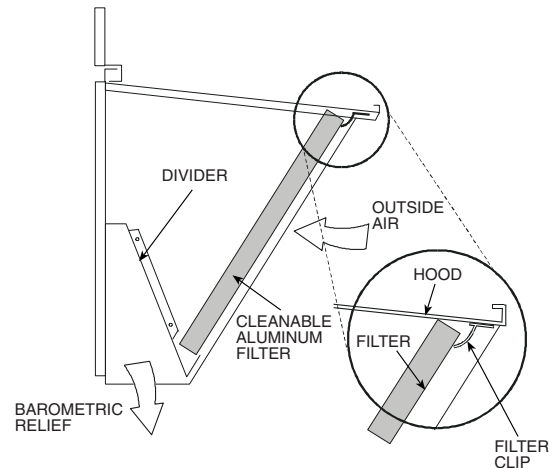

Fig. 26 — Economizer Filter Installation (Size 07-14 Shown)
5. Open the filter clips which are located underneath the hood top. Insert the aluminum filter into the bottom filter rack (hood divider). Push the filter into position past the open filter clips. Close the filter clips to lock the filter into place. See Fig. 26.